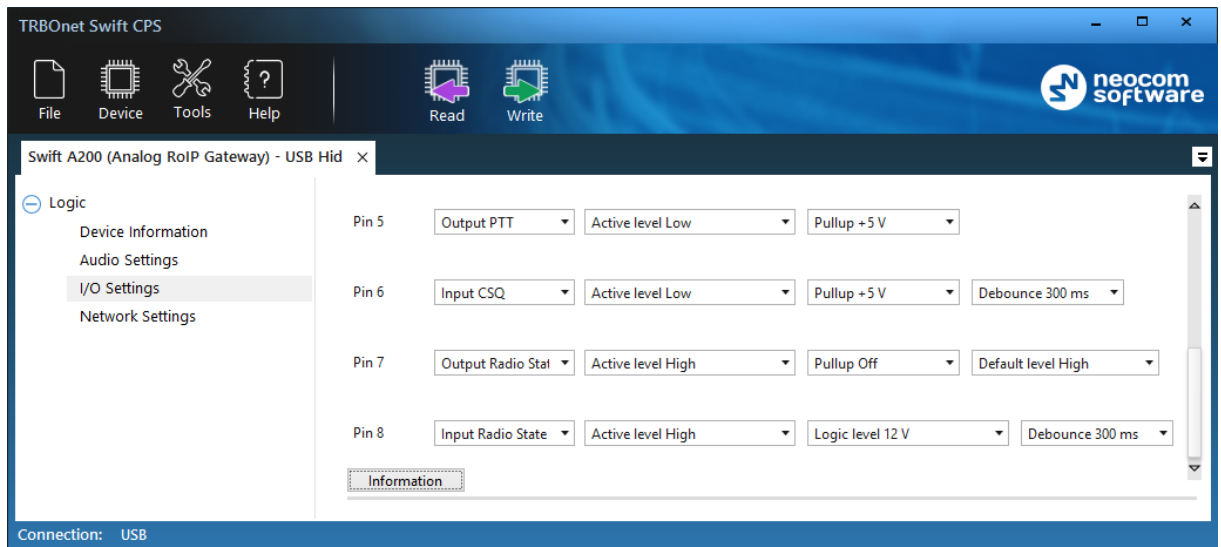

Figure 13: Configuring I/O pins connected to the service cable
- For I/O pins connected to the service cable, specify the function (PTT Output, CSQ Input, other), the active level, and other I/O pin settings (Figure 13).